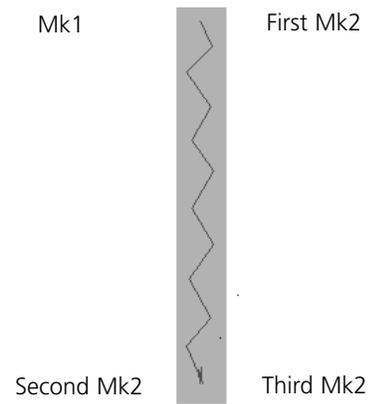

Figure 3-18
4. In this letter **I**, for simple straight column stitching, you define the beginning of the column with a Mk1 on the left side of the column at the top (see Figure 3-18).
5. Next, enter a Mk2 at the beginning of the right side of the column at the top. (see Figure 3-18).
6. Now move to the bottom left of the letter to the end of the first line of the column and enter another Mk2 (see Figure 3-18).
7. The last step in generating the column is to go to the end of the second line of the column (at bottom right of the letter) and enter a third Mk2 (see Figure 3-18).